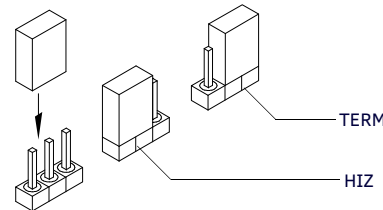

FIG. 3 TERMINATION JUMPER PIN SETTINGS FOR JP4 AND JP5
1. Remove the jumper that is on pins 1 and 2 of jumper trios JP4 and JP5. (Pins 1 and 2 are marked HI-Z - see FIG. 3).
2. Place the jumper on pins 2 and 3 of jumper trios JP4 and JP5. (Pins 2 and 3 are marked TERM - see FIG. 3). This terminates the incoming DMX input with a 120 ohm resistor.